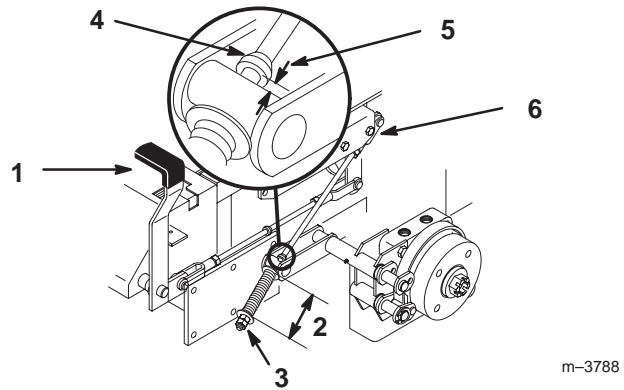

Figure 67
2. Measure the length of the spring. The measurement should be 2-3/4 inch (70 mm) between the washers (Fig. 67).
3. If an adjustment is necessary, loosen the jam nut below the spring and tighten the nut directly below the yoke (Fig. 67). Turn the nut until the correct measurement is obtained. Tighten the two nuts together and repeat on the opposite side of the unit.
6. Measure the distance between the trunnion roller and the collar on the brake rod. The measurement should be 3/16-1/4 inch (5-7 mm) (Fig. 67).
7. If an adjustment is necessary, loosen the jam nut directly below the yoke. Turn the bottom rod until the correct measurement is obtained (Fig. 67). Tighten the jam nut at the yoke.